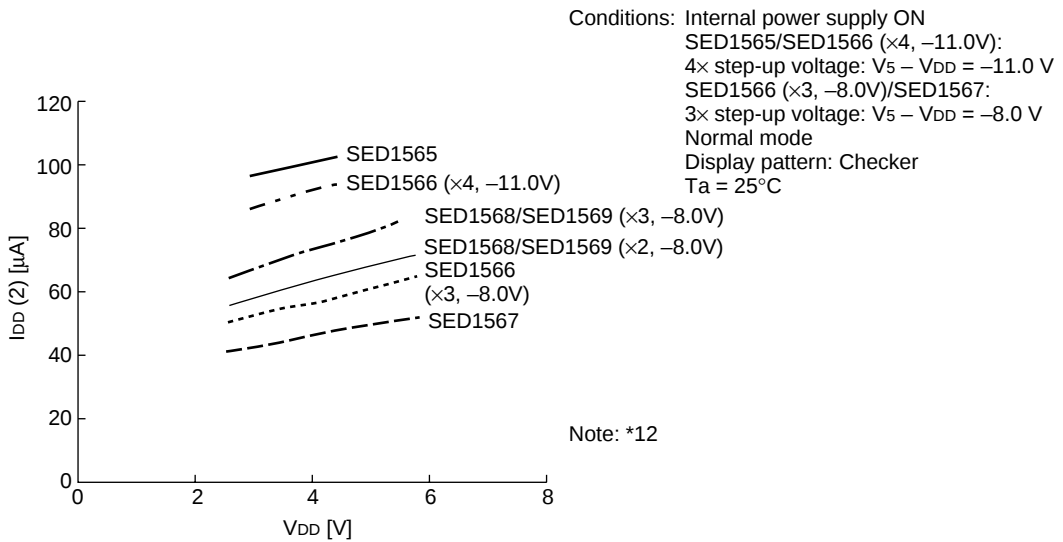

Figure 33
- *2 The operating voltage range for the V_{DD} system and the V_5 system is as shown in Figure 33. This applies when the external power supply is being used.
- *3 The A0, D0 to D5, D6 (SCL), D7 (SI), RD (E), $\overline{WR}$ (R/ $\overline{W}$), $\overline{CS1}$, CS2, CLS, CL, FR, M/S, C86, P/S, $\overline{DOF}$, $\overline{RES}$, IRS, and $\overline{HPM}$ terminals.
- *5 The A0, RD (E), $\overline{WR}$ (R/ $\overline{W}$), $\overline{CS1}$, CS2, CLS, M/S, C86, P/S, $\overline{RES}$, IRS, and $\overline{HPM}$ terminals.
- *6 Applies when the D0 to D5, D6 (SCL), D7 (SI), CL, FR, and $\overline{DOF}$ terminals are in a high impedance state.
- *7 These are the resistance values for when a 0.1 V voltage is applied between the output terminal SEGn or COMn and the various power supply terminals (V1, V2, V3, and V4). These are specified for the operating voltage (3) range.